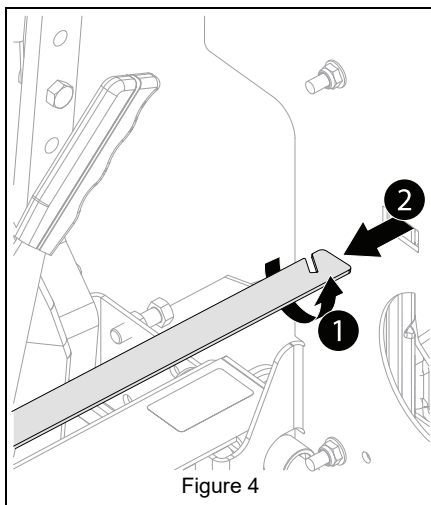

Figure 4
6. Rotate seat brace to remove it from notch in seat plate. Discard brace. See Figure 4.